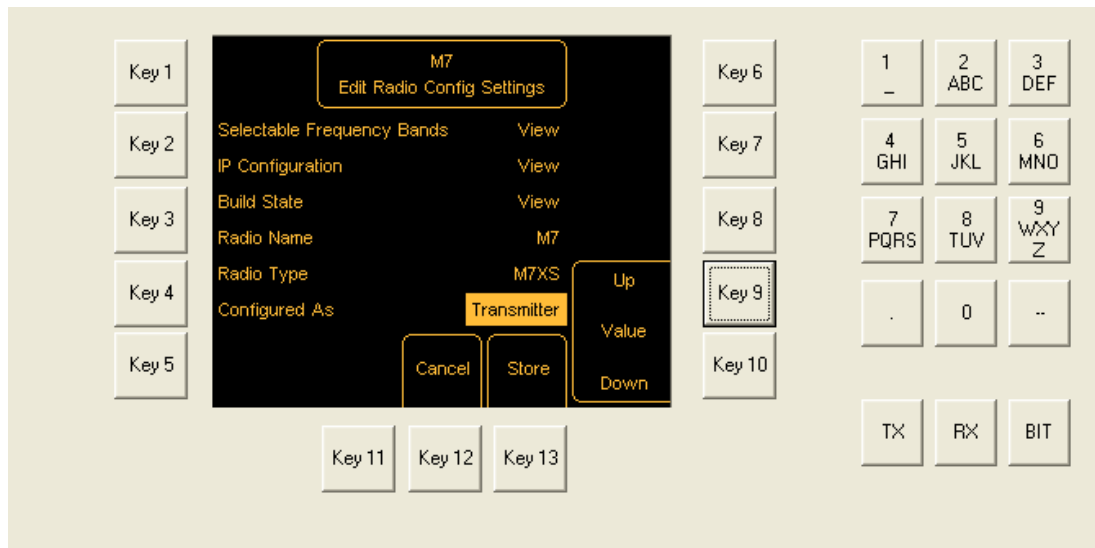

Fig 3-28 Edit Radio Config Settings Screen – Transmitter Selected
- (3) Press *Key 9* to scroll up or *Key 10* to scroll down, and highlight 'Configured As'. If the configuration needs changing, press *Key 13 – Change*.
- (4) Press *Key 9* or *Key 10* to scroll through 'Transceiver', 'Transmitter' and 'Receiver'. When the required configuration is shown, press *Key 13* – *Store*; see Fig 3-28.